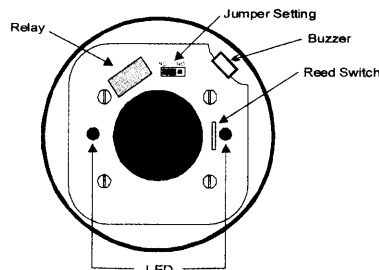

Fig. 4 Schematic of detector structure
- To adjust the normal condition of the relay to "normally closed" (NC),
- Refer to Figure 4. There is a jumper head next to the relay on the PCB. Remove the jumper head and reinsert it in the NC position.